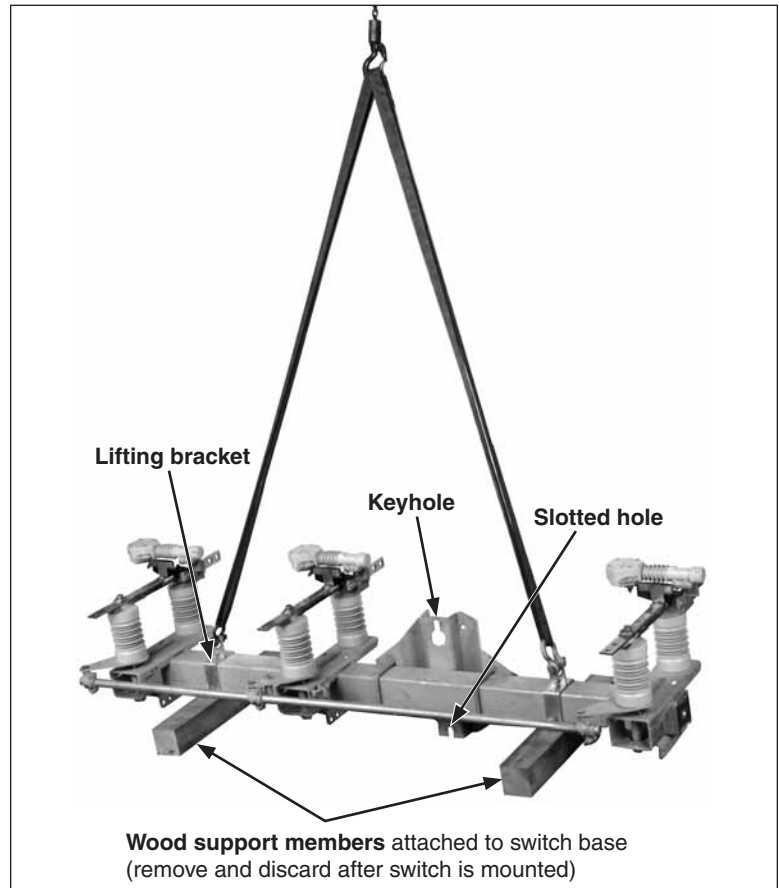

Figure 1. Hoisting upright mounting configuration Omni-Rupter switch into position.
Switches in the upright mounting configuration are provided with two lifting brackets bolted to a 4"×4" wood support member which is, in turn, attached to the switch base. See Figure 1. Since the wood support member is also a part of the shipping skid, use care to avoid damage to it during unpacking.
- c. Lift the switch as shown in Figure 1 until the lifting slings are just taut.